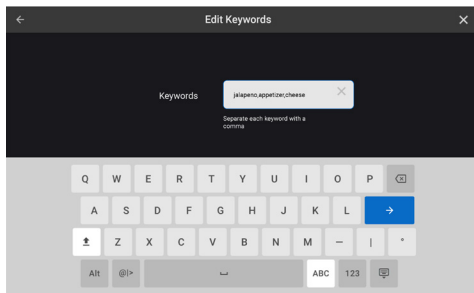

Figure 32: New Recipe Keywords
6. Input keywords for the search option and touch the blue arrow button to continue (Figure 32).